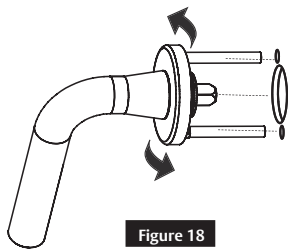

Figure 18
3. Retract latches by rotating lever and opening door. (Figure 18)